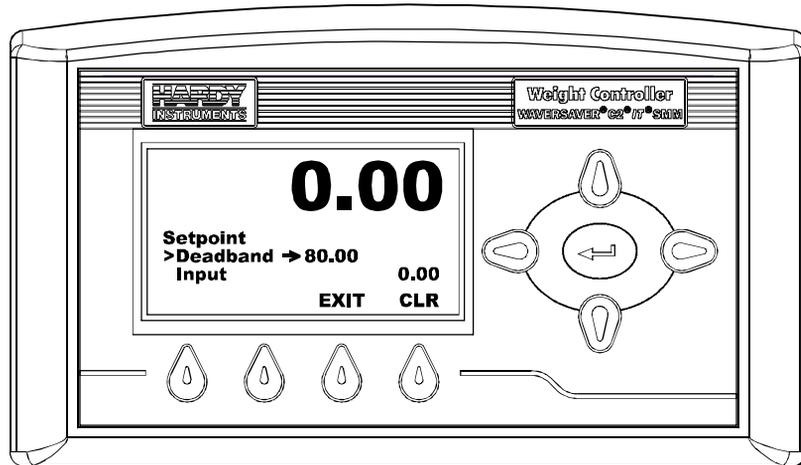

FIG. 371 SET POINT MENU/SELECTING DEADBAND
- Step 21. Press the down arrow button until the cursor is in front of “Deadband” (See Fig. 371)